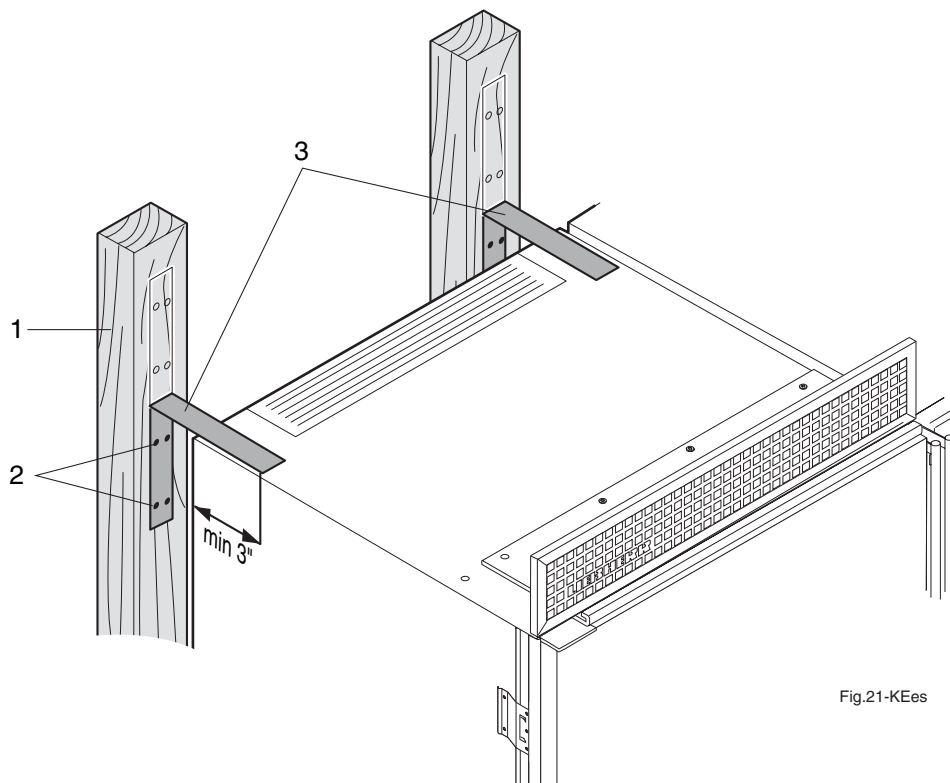

Figure 13
1. **Figure 13:** Secure the refrigerator in place so it does not tip forward when the fully stocked door is opened.